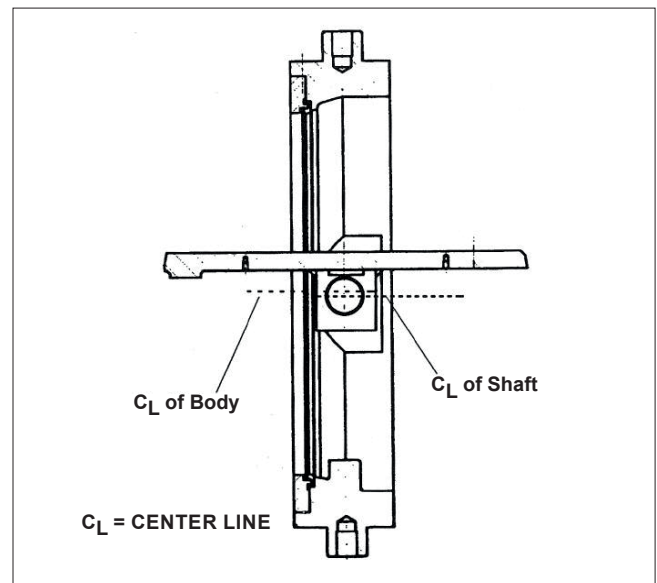

Figure 2.
One of the design features of the *Wafer-Sphere* valve that is responsible for its superior performance is the valve's eccentric shaft design. The shaft is offset in two planes: (1) away from the disc center line; and (2) behind the disc sealing plane (See Figure 2). The offset shaft design makes the disc lift completely off the seat as the valve starts to open, eliminating wear points at the top and bottom of the seat.
4. Before installing the closed valve in the line, be sure that the actuator is attached so that a counterclockwise rotation, viewed from above, opens the valve (**See Figure 2**). Again, fully close the valve before installing it in the line.